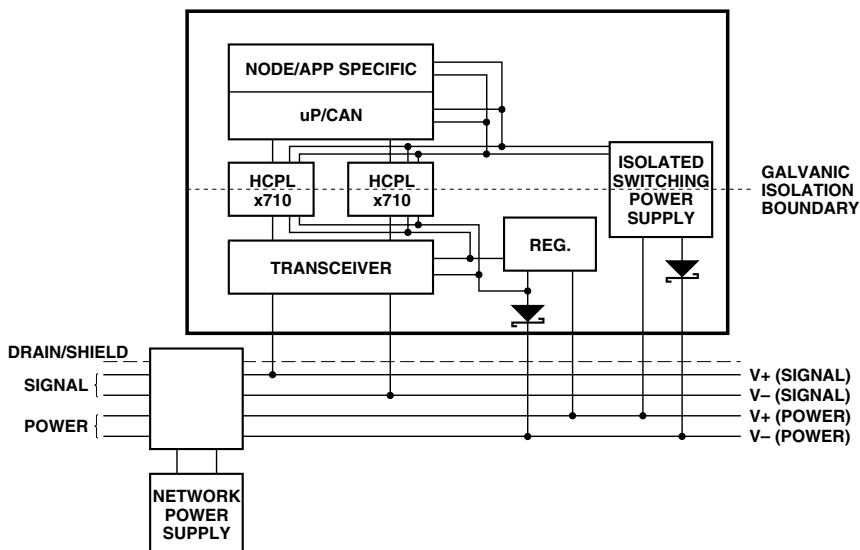
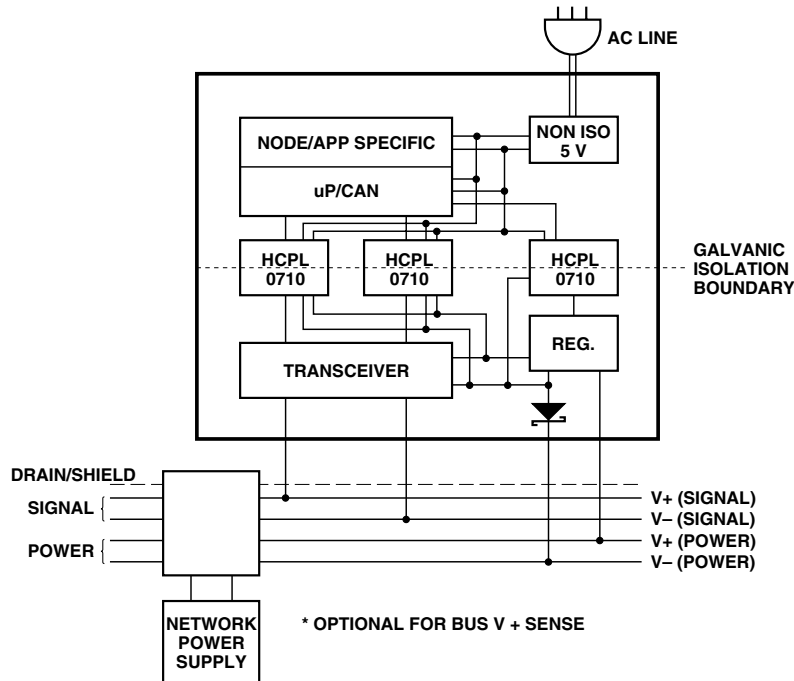
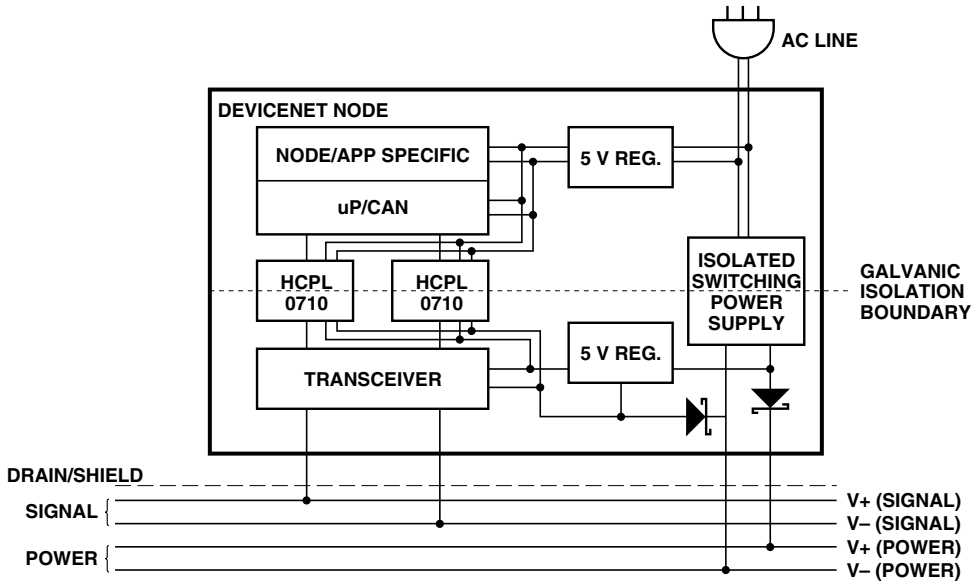

Figure 19. Isolated node powered by the network.
Figure 20. Isolated node with transceiver powered by the network.
Figure 21. Isolated node providing power to the network.
With transmission rates up to 1 Mbit/s, both DeviceNet and SDS are based upon the same broadcast-oriented, communications protocol — the Controller Area Network (CAN). Three types of isolated nodes are recommended for use on these networks: Isolated Node Powered by the Network (Figure 19), Isolated Node with Transceiver Powered by the Network (Figure 20), and Isolated Node Providing Power to the Network (Figure 21).
This type of node is very flexible and as can be seen in Figure 19, is regarded as “isolated” because not all of its components have the same ground reference. Yet, all components are still powered by the network. This node contains two regulators: one is isolated and powers the CAN controller, node-specific application and isolated (node) side of the two optocouplers while the other is non-isolated. The non-isolated regulator supplies the transceiver and the non-isolated (network) half of the two optocouplers.
Figure 20 shows a node powered by both the network and another source. In this case, the transceiver and isolated (network) side of the two optocouplers are powered by the network. The rest of the node is powered by the AC line which is very beneficial when an application requires a significant amount of power. This method is also desirable as it does not heavily load the network.
It is suggested that the Bus V+ sense block shown in Figure 20 be implemented. A locally powered node with an un-powered isolated Physical Layer will accumulate errors and become bus-off if it attempts to transmit. The Bus V+ sense signal would be used to change the BOI attribute of the DeviceNet Object to the “auto-reset” (01) value. Refer to Volume 1, Section 5.5.3. This would cause the node to continually reset until bus power was detected. Once power was detected, the BOI attribute would be returned to the “hold in bus-off” (00) value. The BOI attribute should not be left in the “auto-reset” (01) value since this defeats the jabber protection capability of the CAN error confinement. Any inexpensive low frequency optical isolator can be used to implement this feature.
Figure 21 shows a node providing power to the network. The AC line powers a regulator which provides five (5) volts locally. The AC line also powers a 24 volt isolated supply, which powers the network, and another five-volt regulator, which, in turn, powers the transceiver and isolated (network) side of the two optocouplers. This method is recommended when there are a limited number of devices on the network that don't require much power, thus eliminating the need for separate power supplies.